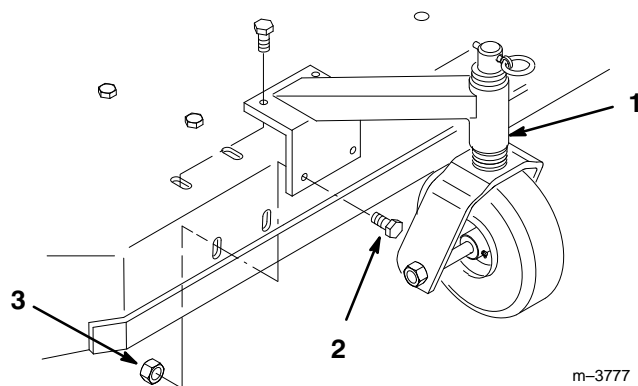

Figure 1
- Align castors with holes on top and front of mower and insert (8) 3/8–16 x 3/4" (19 mm) bolts through mower. Secure with (8) 3/8–16 flange nuts below mower (Fig. 1).